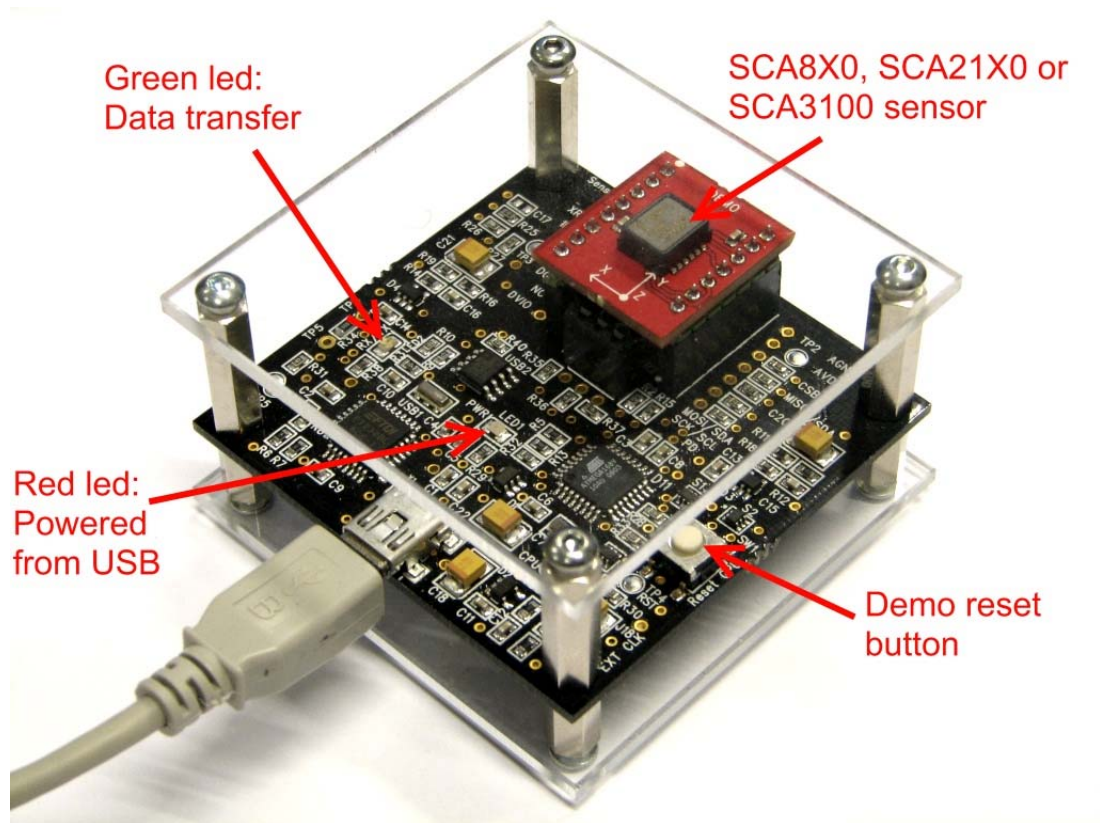

Figure 1. SCA8X0-21X0-31X0 demo USB interface board and SCA8X0-21X0-31X0 PWB.
- SCA8x0, SCA21x0 or SCA31x0 sensor soldered on chip carrier PWB (see figure 1 on the next page)
- USB interface card (see figure 1 on the next page)
The SCA8X0-21X0-31X0 DEMO KIT USB interface board (black PCB) and SCA8X0-21X0-31X0 PWB (red PWB) are shown in figure 1. The USB interface card converts the USB interface to SPI interface of the accelerometer. SCA8x0, SCA21x0 or SCA31x0 sensor is soldered on the PWB which is connected to interface board.
μ C can be reinitialized by exiting from the GUI and then pressing the reset button (figure 1) on USB interface board.
- Stop the GUI software, press the reset button program on demo USB interface board (see figure 1), re-start the GUI again.